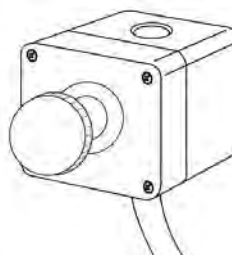

Fig 13
The machine will stop when you push the red OFF button (B) or the remote OFF-switch (U, Fig 1; Fig 13). Wait until workpiece comes to a complete stop.
The remote OFF-switch (U, Fig 1; Fig 13) stops the machine.